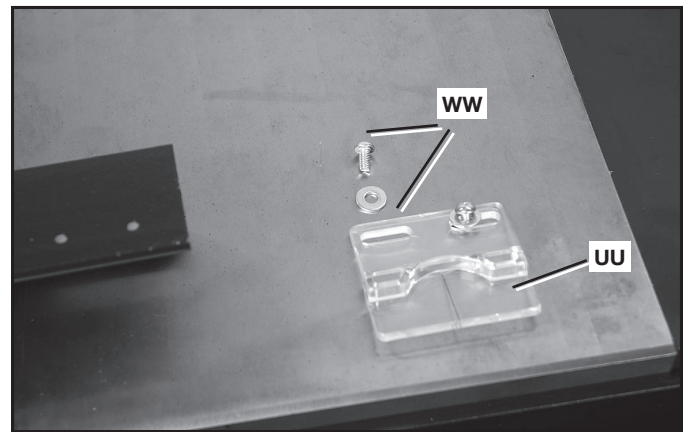
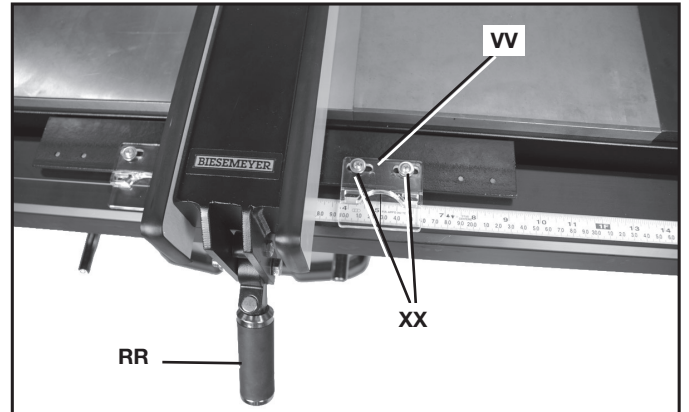
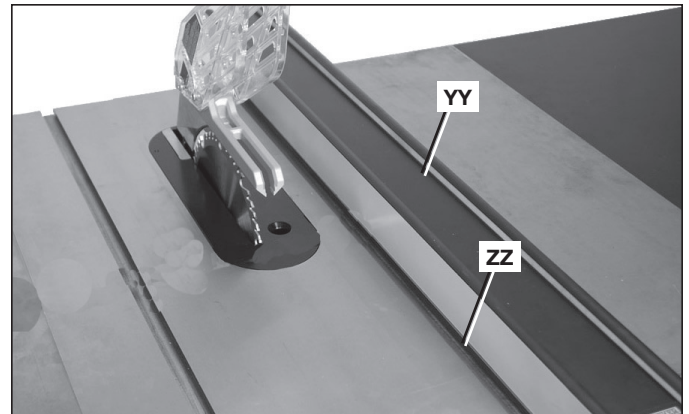
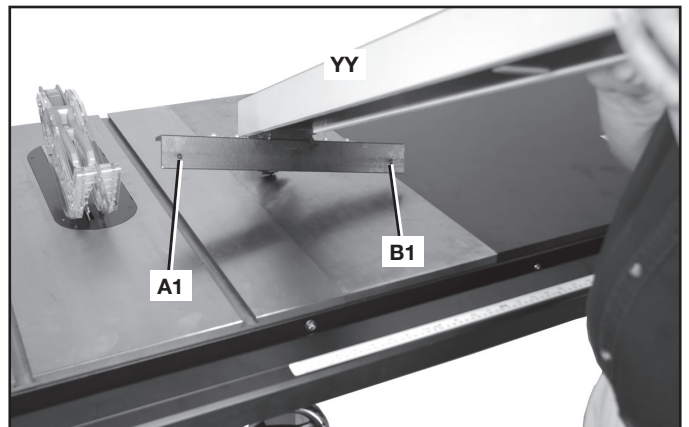

FIG. 20
FIG. 21
FIG. 22
FIG. 23
1. Attach right side hairline pointer (UU), Fig. 20 to fence crossarm (VV) Fig. 21 using two #10-32 x 3/8" (9.5 mm) round head screws and flat washers (WW) Fig. 20.
2. Screws go through the slotted holes in the pointer and into the threaded holes (XX) Fig. 21 in the crossarm.
The fence (YY) Fig. 22, must be adjusted so it is parallel to the miter gauge slot (ZZ). Slide the fence until the bottom edge is in line with the edge of the miter gauge slot as shown and push down on fence locking handle (RR) Fig. 21.
Check to see if the fence (YY) Fig. 22 is aligned with the miter slot the entire length of the table. If an adjustment is needed, lift fence (YY) off the guide as shown in Fig. 23.
Slightly tighten or loosen adjusting screws (A1) Fig. 23 or (B1), using a 3/16" hex wrench, not included. Replace the fence on the guide tube and check again. Repeat this adjustment until you are certain the fence is parallel to the miter gauge slot. **NOTE: Very little movement of the adjusting screws is necessary to adjust the fence.**